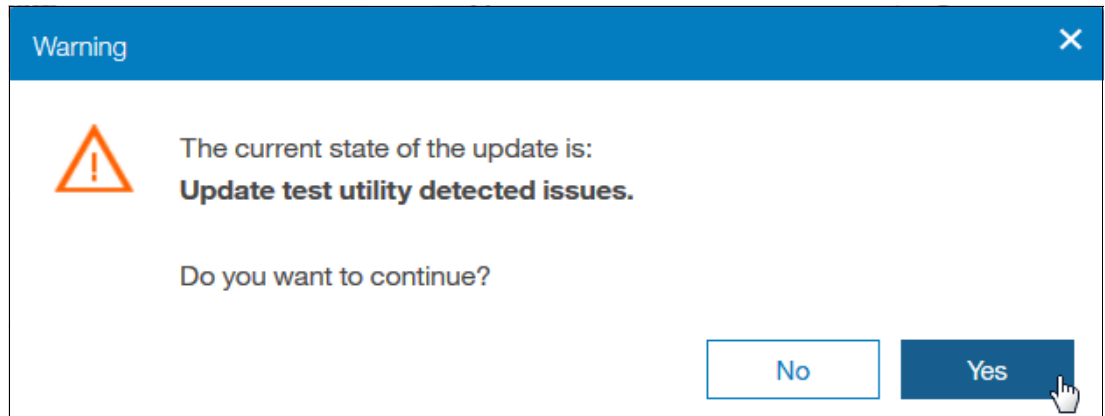

Figure 12-41 Resume confirmation window
9. Selecting **Resume** prompts the user to confirm the action, as shown in Figure 12-41.